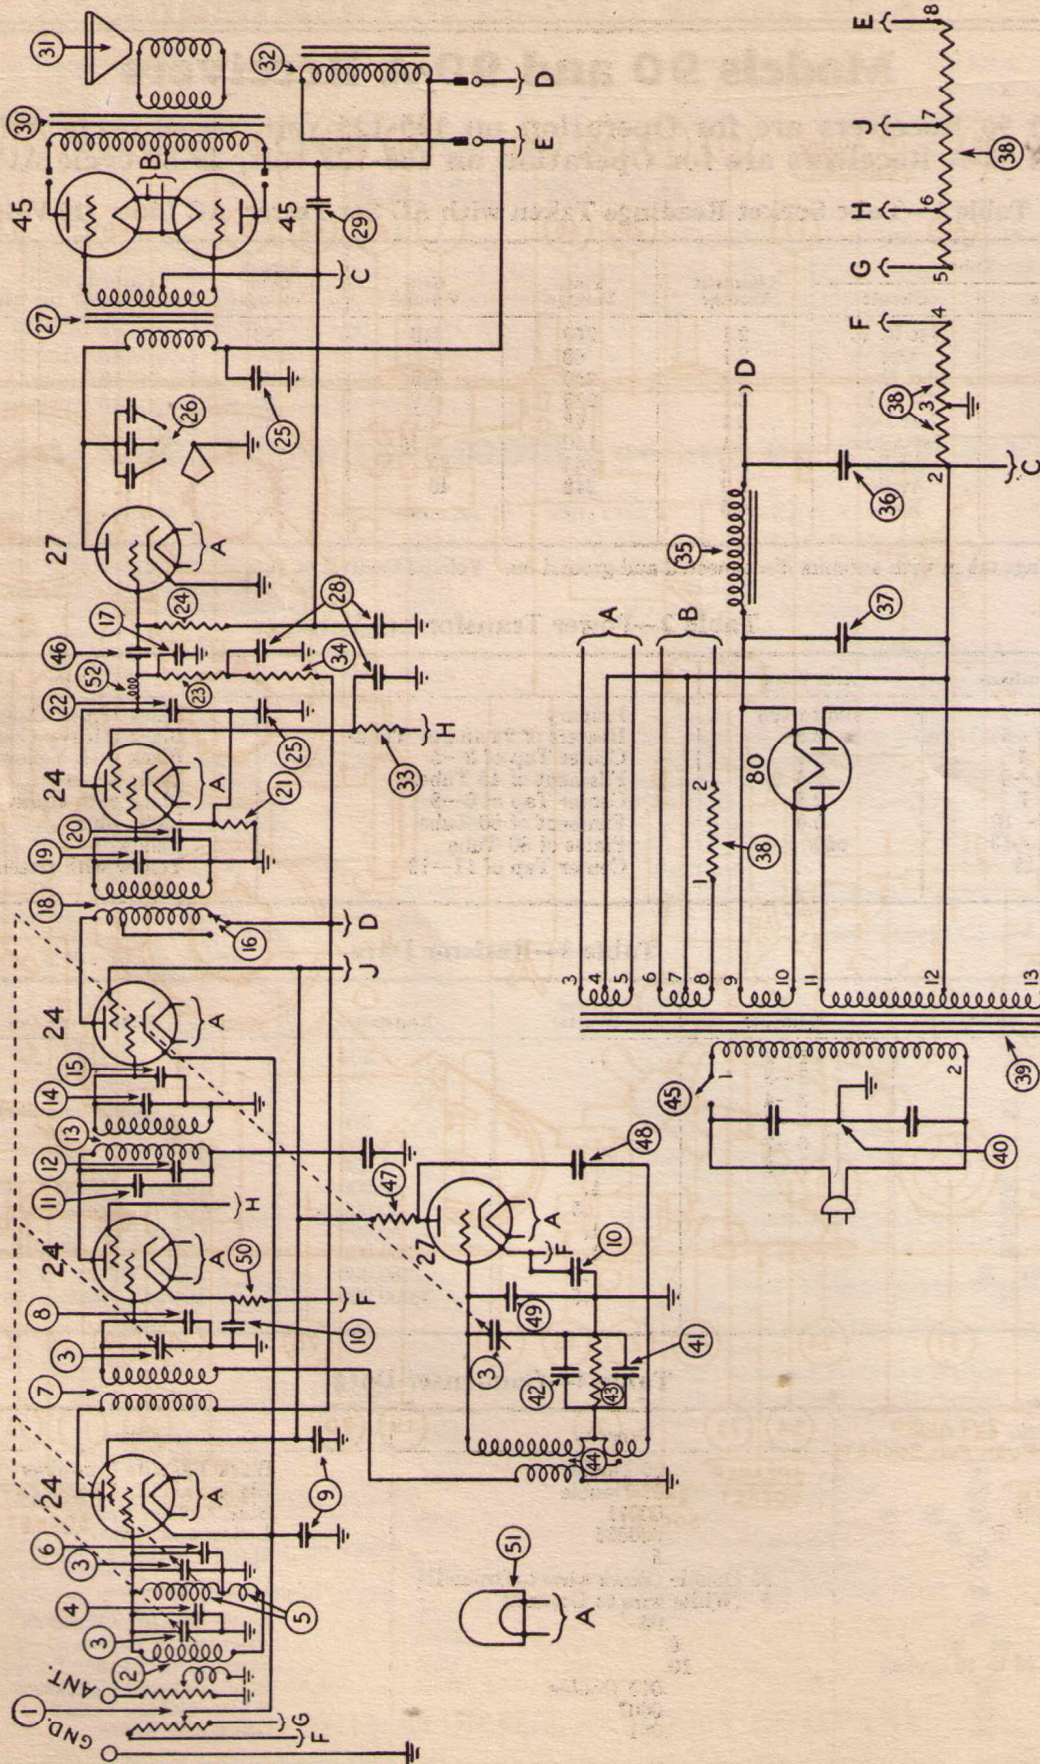

Fig. 1
The Range Switch, No. ⑩ in Fig. 1, is placed in the NORMAL position when the Receiver is shipped. This gives great distance range and is the setting which will be found most satisfactory in practically all locations. In places far from broadcasting stations, however, the Range Switch may be changed to the MAXIMUM position. This will make the Receiver super-sensitive and will give extreme distance range. Do not use the Range Switch in the MAXIMUM position if there are one or more powerful broadcasting stations near you. In any location there will be less noise between stations with the Range Switch in the NORMAL position.